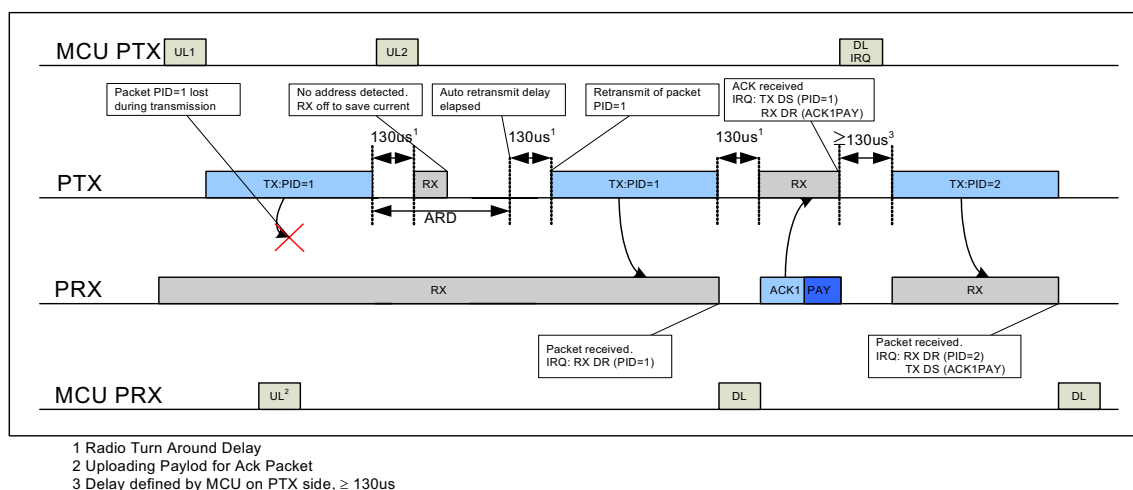

Figure 19. TX/RX cycles and the according interrupts when the packet transmission fails
**Figure 19.** is a scenario where the first packet is lost and a retransmission is needed before the RX\_DR IRQ on the PRX side is asserted. For the PTX both the TX\_DS and RX\_DR IRQ are asserted after the ACK packet is received. After the second packet (PID=2) is received on the PRX side both the RX\_DR (PID=2) and TX\_DS (ACK packet payload) IRQ are asserted.